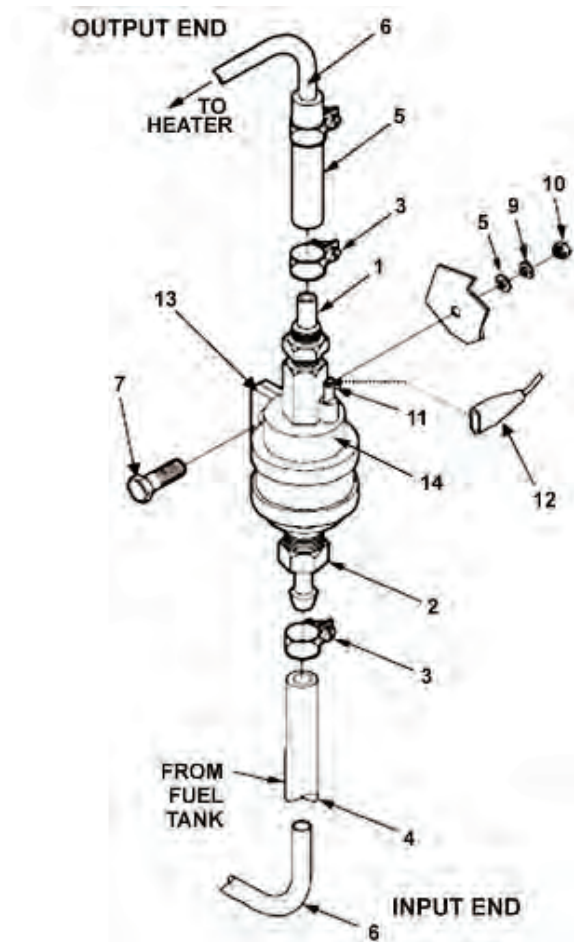

Figure 1. Fuel Pump Maintenance.
2. Disconnect electrical leads (Figure 1, Item 12) from connector (11) on fuel pump (14).
3. Loosen screw clamp (3) to disconnect fuel line (6) and butt splice (4) from input end (2) of fuel pump (14).
2. Perform installation steps substituting new fuel pump (Figure 1, Item 14) for the defective one.
1. Install new fuel pump (Figure 1, Item 14) with clamp (13) and secure to housing with bolt (7), flat washer (8), new lockwasher (9), and nut (10).
2. Install butt splice (5) and fuel line (6) on outlet end (1) of fuel pump (14) and secure with screw clamp (3).
3. Install fuel line (6) and butt splice (4) on inlet end (2) of fuel pump (14) and secure with screw clamp (3).
4. Plug in electrical leads (12) at connector (11) on fuel pump (14).